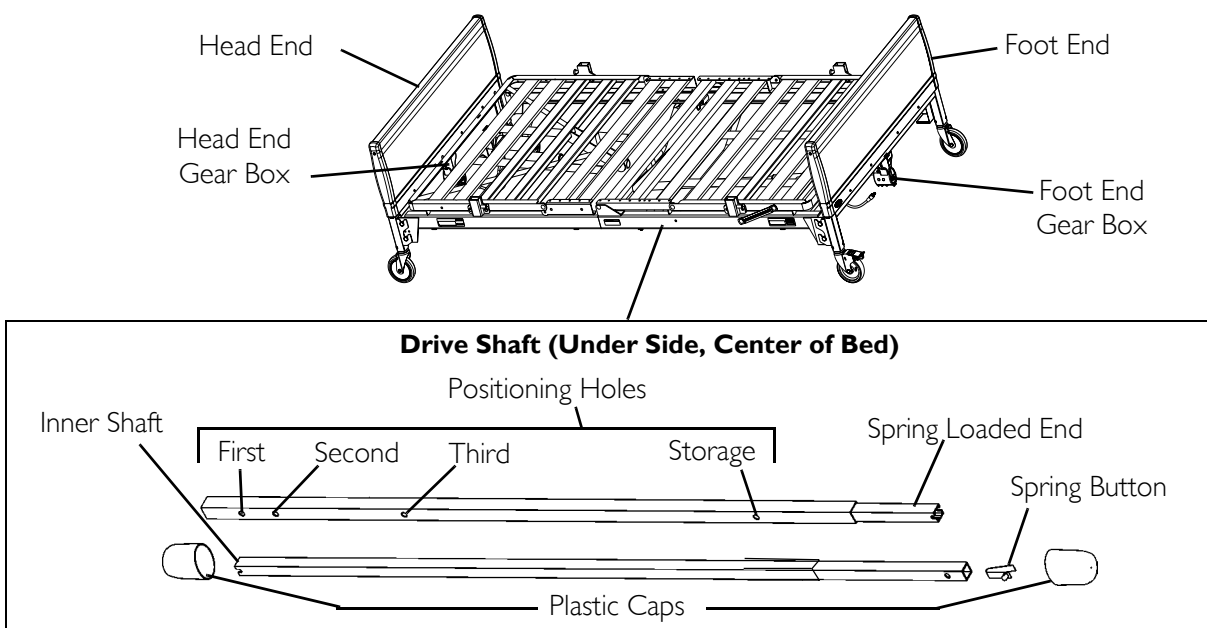

FIGURE 5.7 Assembling/Installing/Removing Drive Shaft
NOTE: For this procedure, refer to FIGURE 5.7 and FIGURE 5.8 on page 31.
3. Engage the spring button into the third positioning hole. Refer to FIGURE 5.7.